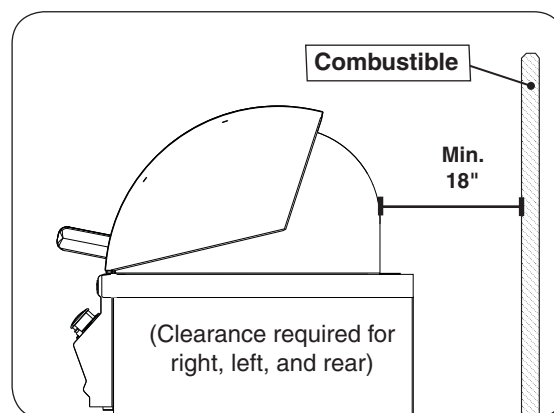

Fig. 9-3 Clearance 'C' Diagram
- The grill must have a minimum of 18" right, left, and rear clearance from any combustible wall (see Fig. 9-3).